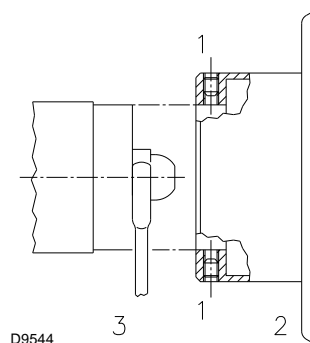

Fig. 18
- fitting the wrench through the central hole in the flame stability disk or loosen screws 1)(Fig. 18);
- remove disk 2)(Fig. 18) and replace the nozzles using the wrench 3)(Fig. 18).